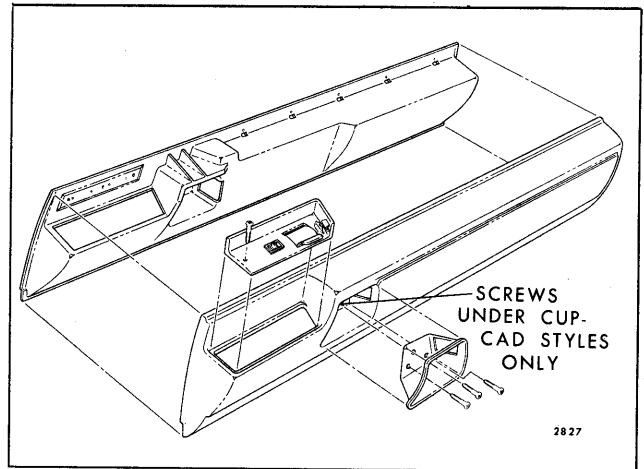

Fig. 14-11—Door Arm Rest - Cadillac Styles
5. On Cadillac styles, Pontiac 26200 series styles and "E" body styles, remove screws securing remote control cup (Fig. 14-11) and remove cup. On Cadillac styles only, remove screws previously hidden by cup which secure arm rest base to door inner panel (Fig. 14-11).